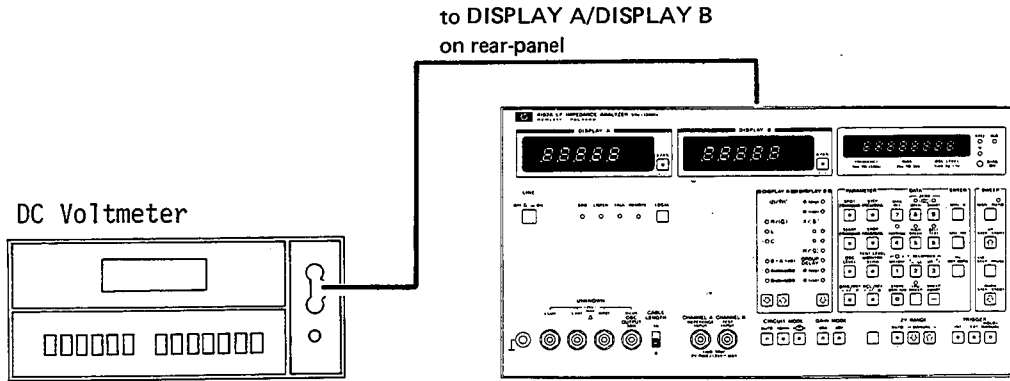

Figure 4-11. Recorder Output Voltage Accuracy Test Setup.
- a. Connect the INPUT of the 3465A to the DISPLAY A terminal on the rear panel of the 4192A as shown in Figure 4-11.
- b. Press **Blue** and $\overleftarrow{2}$ (LL). The readout on the 3465A should be $0V \pm 20mV$.
- c. Press **Blue** and $\overrightarrow{3}$ (UR). The readout on the 3465A should be $1V \pm 5mV$ higher than the voltage measured in step b.